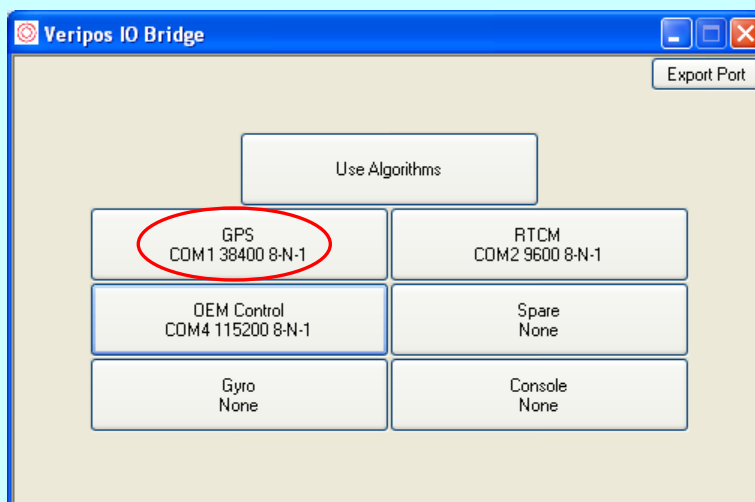

Figure 11 Bridge IO
- b) Click on bridge icon at the bottom tool bar to display the IO Bridge interface (Fig 11).
- c) On the Bridge IO software interface, click on GPS button (Red oval Fig.11).